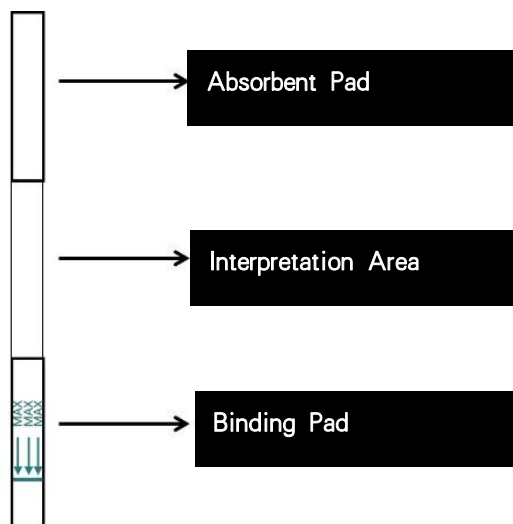

Figure 1 Schematic diagram of the structure of a disposable nucleic acid detection test strip
1. Take out the corresponding number of test strips according to the number of test samples, and mark them on the absorbent pad (Figure 1). Each test strip can only be used for an one-time single sample test. When the volume of the amplification product is between 50-100 μ L, the nucleic acid product can be detected directly in the 200 μ L PCR reaction tube. When the amplification product is less than 50 μ L, it is necessary to add ultrapure water to the PCR tube to make up the volume to 50 μ L, and the detection can only be performed after mixing by pipetting.
2. After PCR, RPA or RAA products are added to the CRISPR system, open the PCR reaction tube and insert the binding pad end (arrow end) of the test strip into the PCR reaction tube (Figure 1). The liquid level must not exceed the top of the binding pad. After the reading area is fully saturated (about 1-2 minutes, when the external environment temperature is low, such as winter, the water absorption speed will be reduced, and the saturation time of the reading area will be prolonged), and after the color of the quality control line (C line) emerges, take the test strip out. Read the test result directly according to the color development of the test strip.